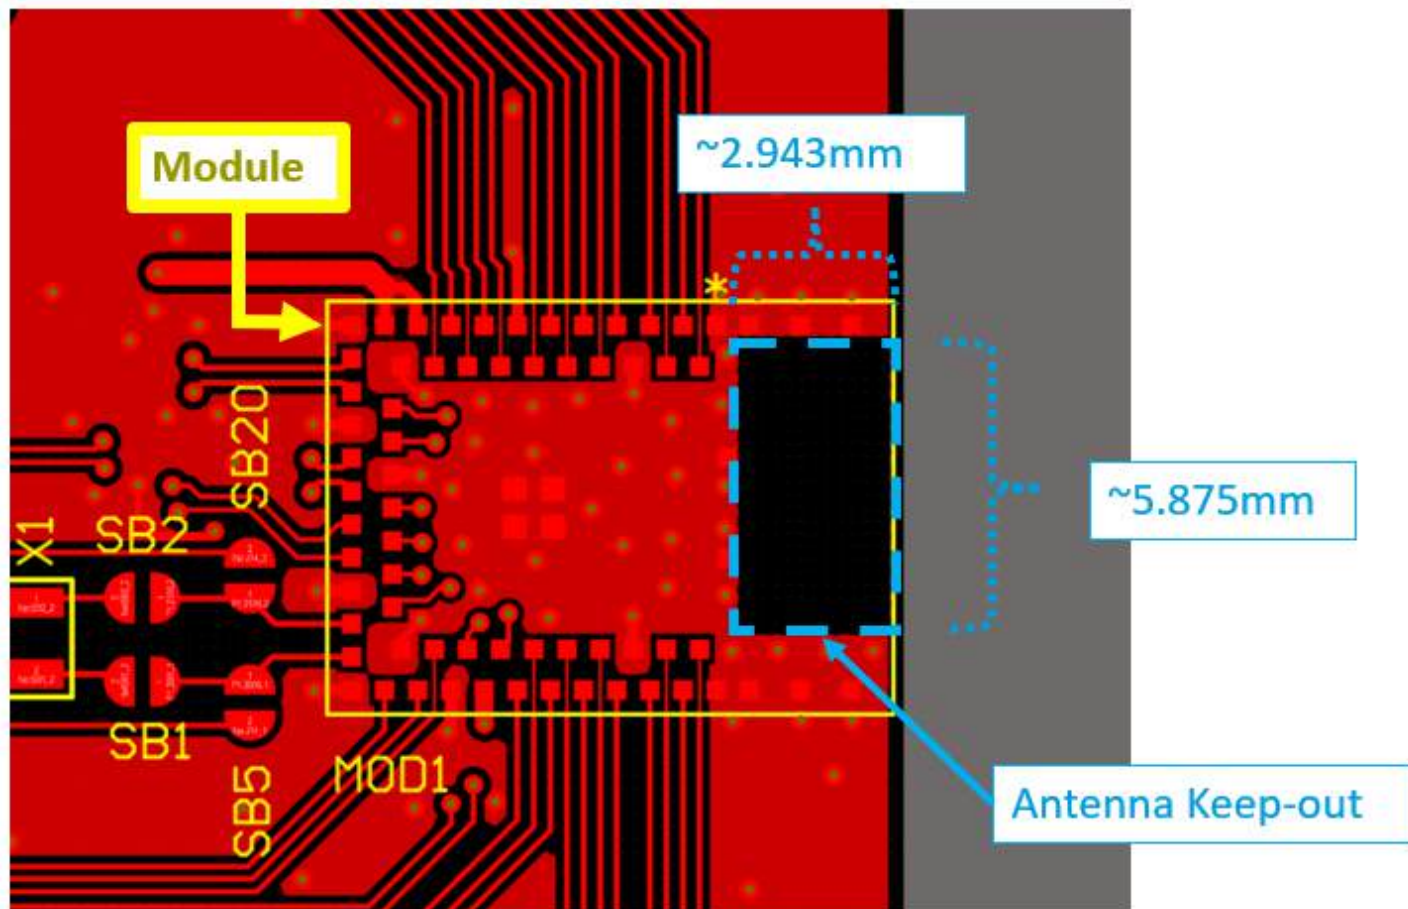

Figure 6 : Chip Antenna keep-out area (shown in blue) from the BL54LM20B development board for the 453-00672 module.
- The BL54LM20B development board (453-00672-K1) has the 453-00672 module on the edge of the board (not in the corner). The antenna keep-out area is defined by the BL54LM20B development board shown in Figure 6 which was used for module development and antenna performance evaluation, where the antenna keep-out area is ~2.943mm wide, ~5.875mm long; with HOST PCB dielectric (no copper) height ~1.6 mm sitting under the 453-00672 integrated chip antenna module.